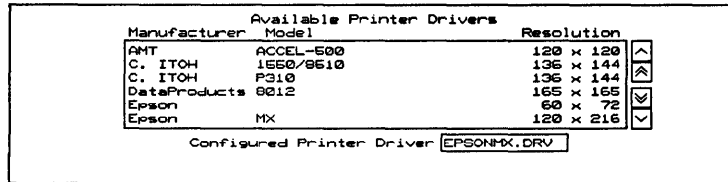

Figure 1-3. Available Printer Drivers list box.
A list box (figure 1-3) lists the printer drivers available in the directory path specified in the **Driver Prefix** entry box.
**Example** If you select the Epson printer from the drivers displayed in figure 1-3, the following displays: